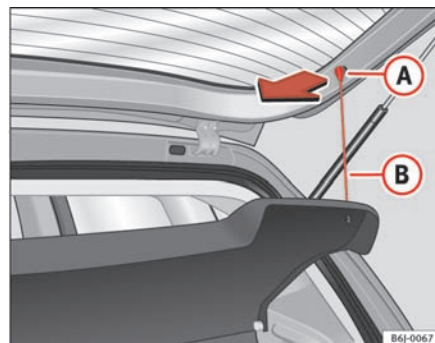

Fig. 83 Luggage compartment cover
- Disengage the loops ⇒ fig. 83 B from the retaining pins A.